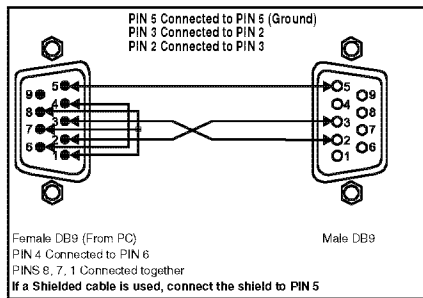

Figure 6: Connecting a PC without using a Null-modem Adapter
- Connect the RS-232 DB9 port on your PC to the RS-232 DB9 rear panel port on the **VS-201YC**, as Figure 6 illustrates